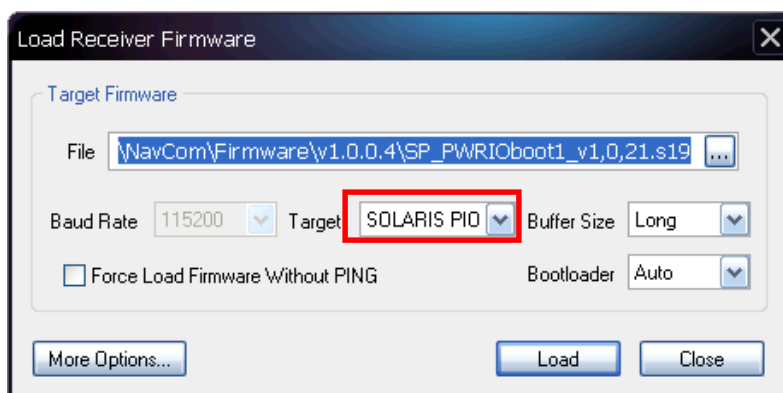

Figure 73: Settings for PWRIO Firmware
- Select SOLARIS PIO to upload PWRIO firmware (see Figure 73).